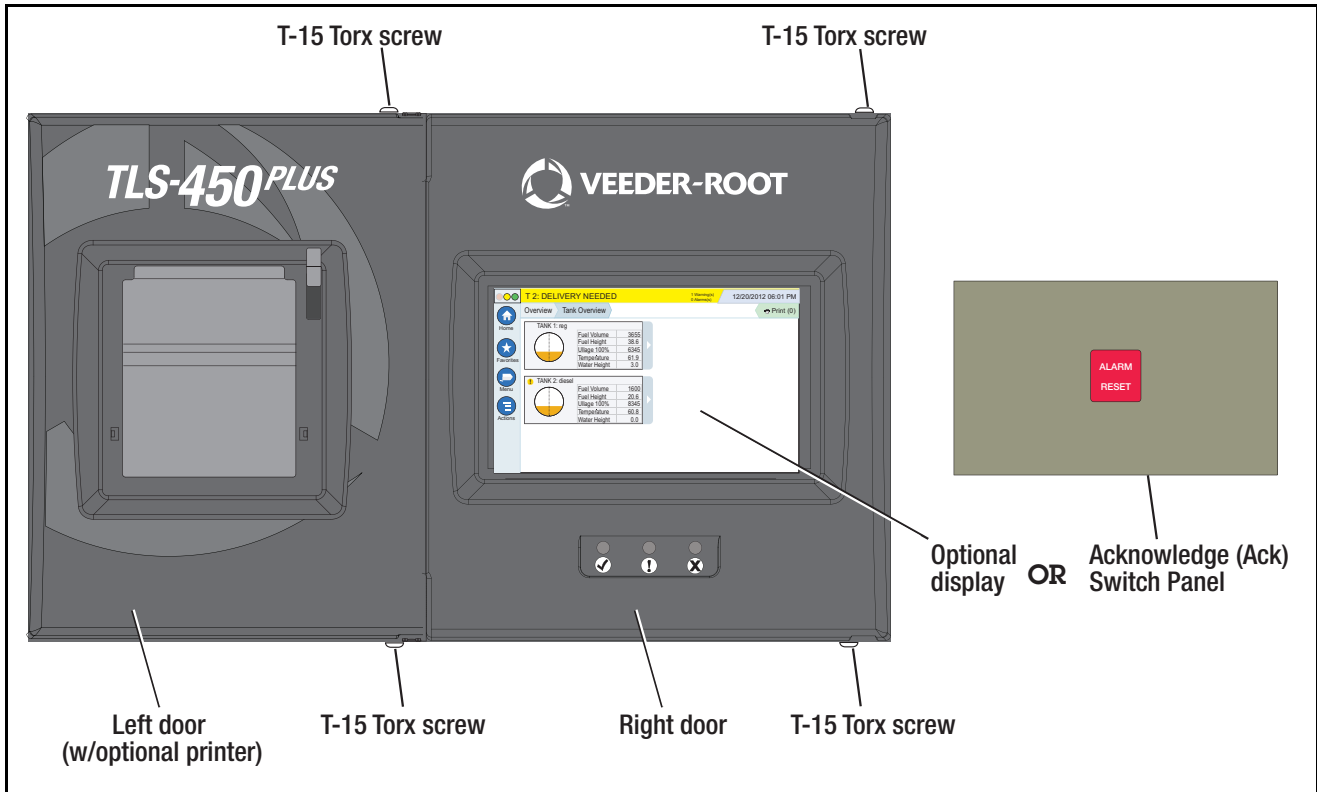

Figure 41. Opening Console Front Doors
1. Using a T-15 Torx driver, remove the top and bottom screws securing the left door and swing the door to the left. Remove the top and bottom screws securing the right door and swing it to the left. (see Figure 41).